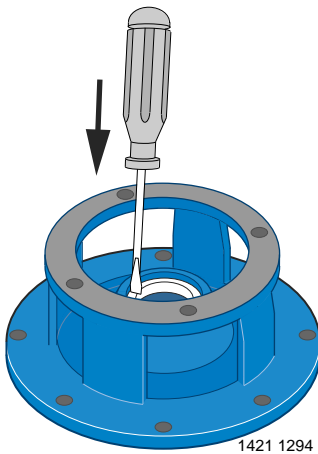

Figure 3
6. Place adapter/seal plate face down on bench and drive old stationary half of seal out of adapter/seal plate by carefully tapping with screwdriver and hammer (Figure 3).